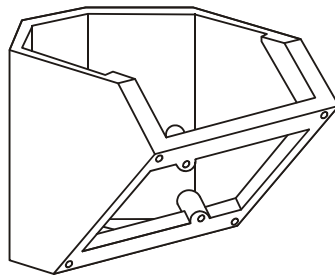

Fig. 2
- Mounting bracket MV1 (Fig. 2): For fixing flame detector at 45°